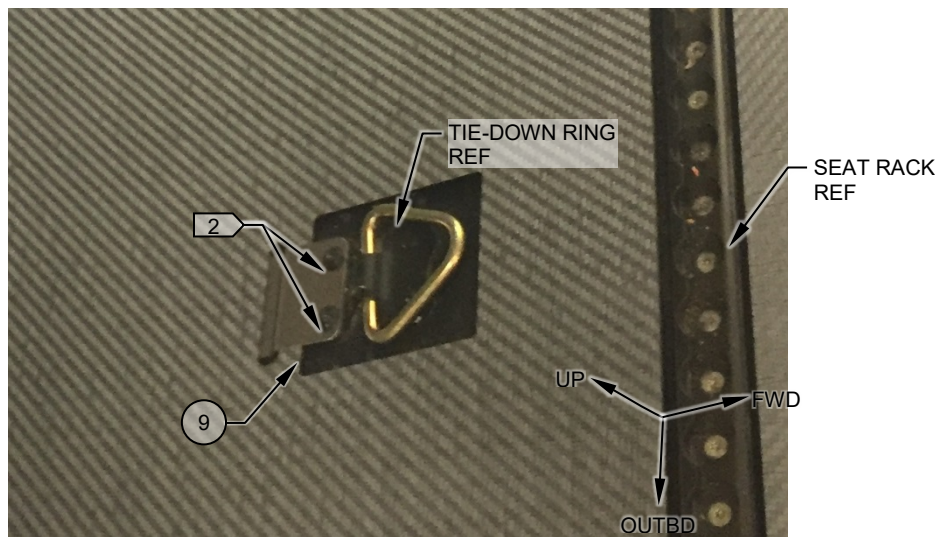

**Figure 13**
9. Remove the AFT two screws from the RHD FWD most triangular tie-down ring in the cargo area and install the Retainer, Assemblies (Item 9) re-using the OEM fasteners. Reference Figure 13 and 14.